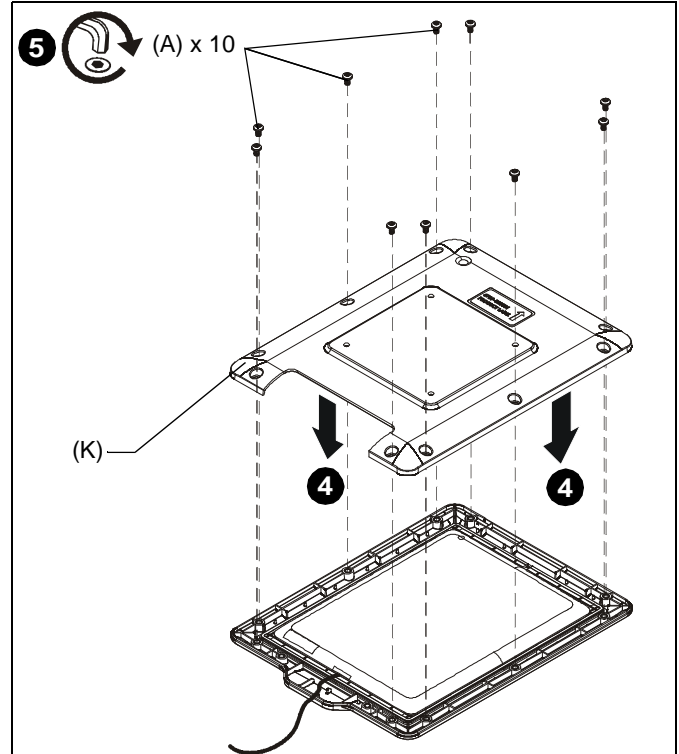

Figure 2
4. Carefully place security mount back (K) over the iPad digital device. (See Figure 2)
5. Fasten together using ten 08-32 x 1/4" button head security screws (A). (See Figure 2)